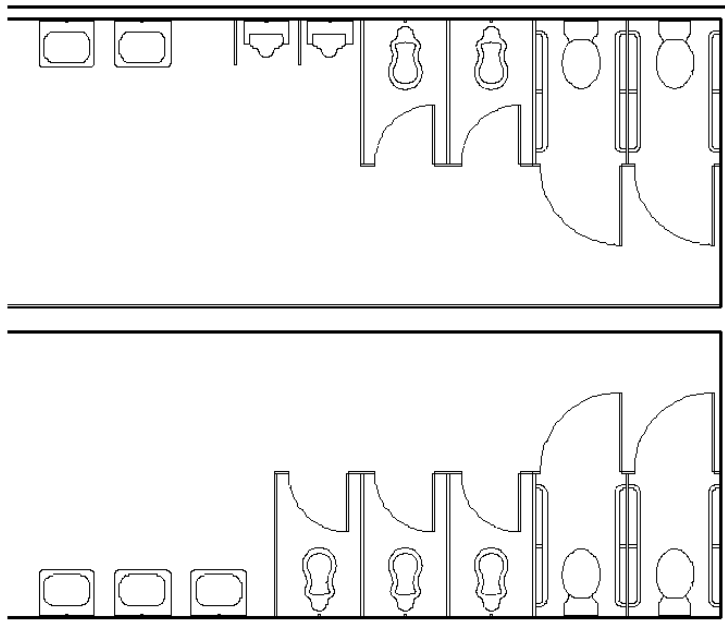

Figure 5-45: Create these two walls of fixtures.
- From scratch, use the macros in this section to create 2 lines of plumbing fixtures, as in Figure 5-45 (pick your own plumbing fixture symbols):